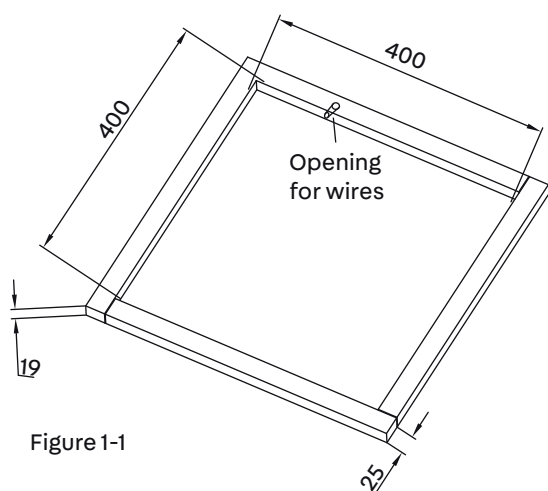

Figure 1-1
If the roof ventilation opening is not used, a new opening must be cut in the roof of the vehicle (see Figure 1-1). A corresponding opening must also be installed in the internal ceiling of the vehicle. Proceed with caution. If the opening is covered, cracks may occur. Once you are sure that the openings in the roof and the internal ceiling are sized correctly, a framed support structure must be installed between the external roof and the internal ceiling. The reinforced frame structure must meet the following guidelines:
2. The outer roof surface and the inner ceiling must be kept separate from each other and supported so that no malfunction occurs when the roof air-conditioning system and the roof subassembly are screwed together. A typical support frame is shown in figure 1-1.